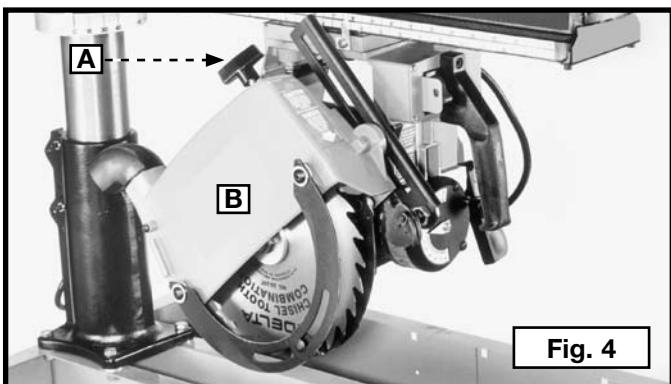

Fig. 4
1. Loosen the blade guard clamp knob (A) Fig. 4 and rotate the blade guard (B) to the position shown.